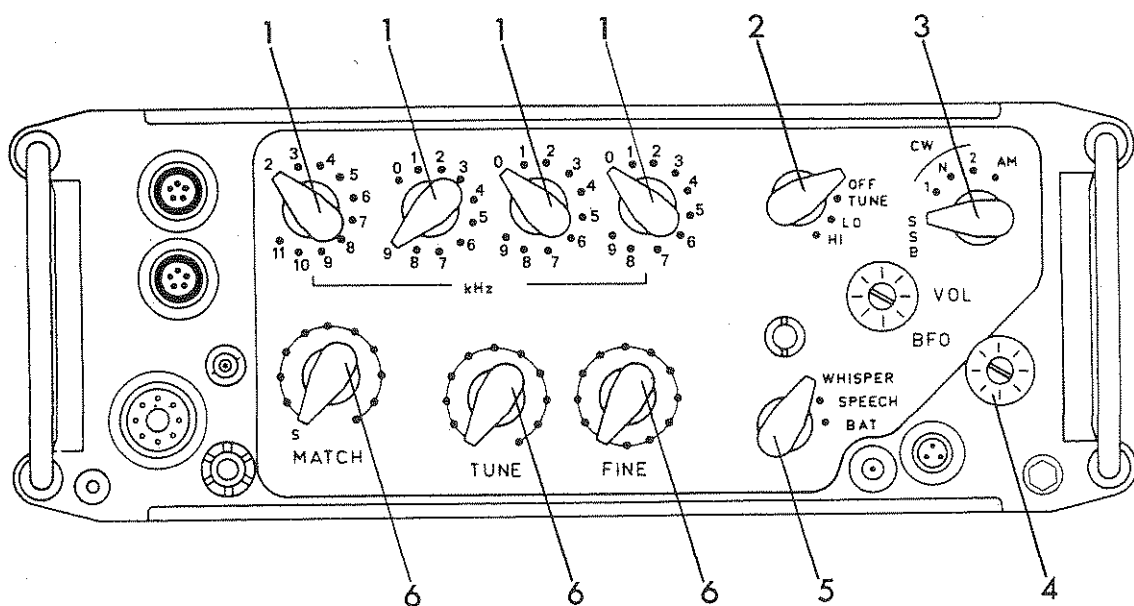

FIG 49
- c. Fig 49 - Tuning Sequence - Radio Set, GRC-F2.